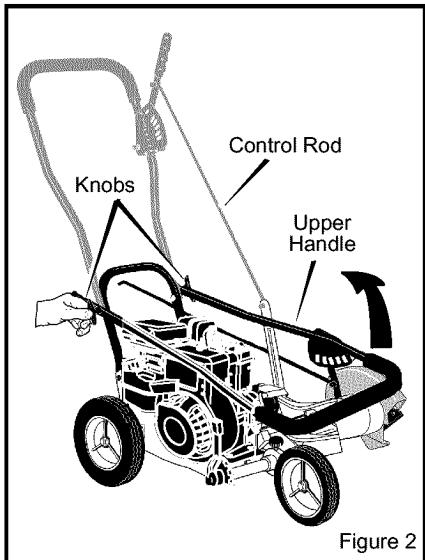

Figure 2
1. Loosen the **knobs** and raise the upper handle to the upright position. See Figure 2. Allow the **control rod** to swing freely.
2. Tighten the **knobs**. Make sure the **knobs** are to the outside of the handles as shown in Figure 2.